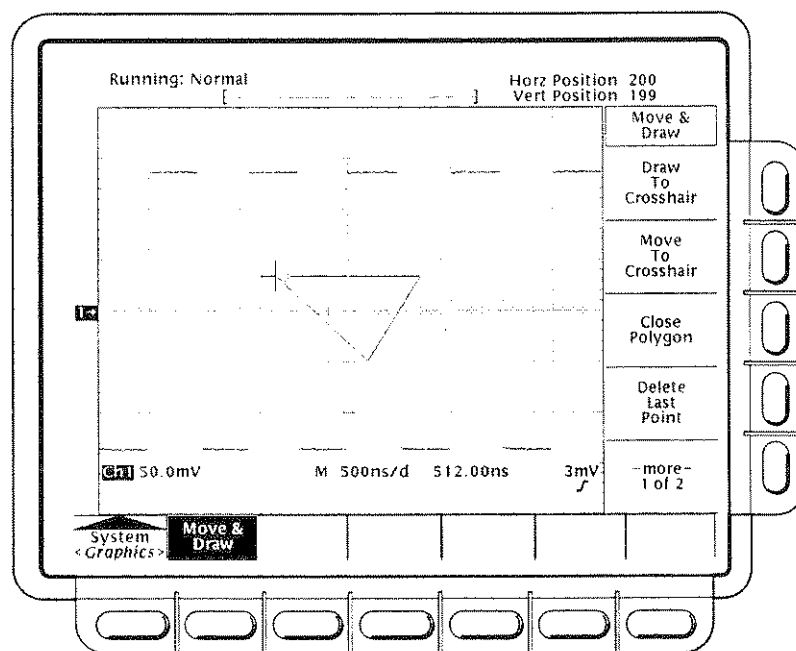

Figure 3-16: Drawing Lines
7. Press **Draw To Crosshair** (side). The present cursor position becomes the point next in the list of points, and a line appears between the two points (see Figure 3-16).